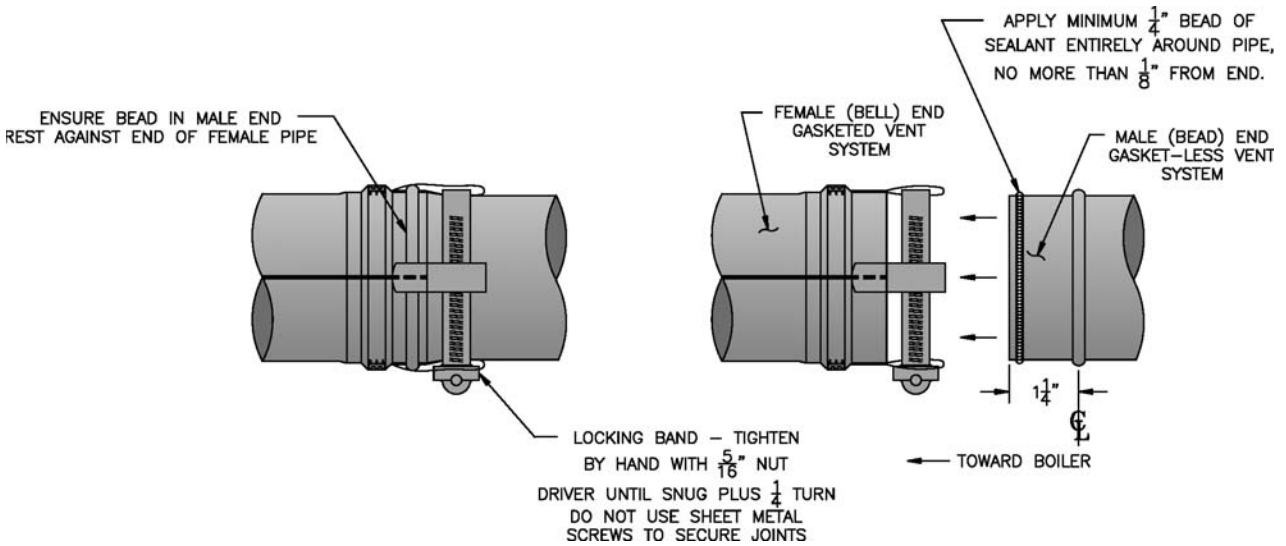

Figure 3C: Burnham Gasket-Less Male and Gasketed Female Vent Joint Detail
- 1. Procedure for joining the male end of Burnham Gasket-Less Vent with the female end of Burnham Gasketed Vent. See Figure 3C.